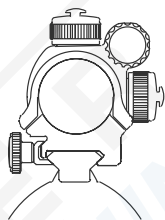
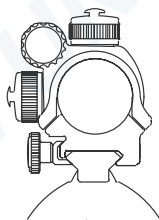

Fig. 2
Fig. 3
- b) Ensure that the sight is correctly positioned for right or left hand shooting, *see fig 2 and 3*.
The elevation adjustment screw is located on top of the sight, while the windage screw is located on the right or left side, depending on how the sight has been mounted on the weapon. (Aimpoint sights can be installed to support either right hand (fig 2) or left hand (fig 3) shooters.)